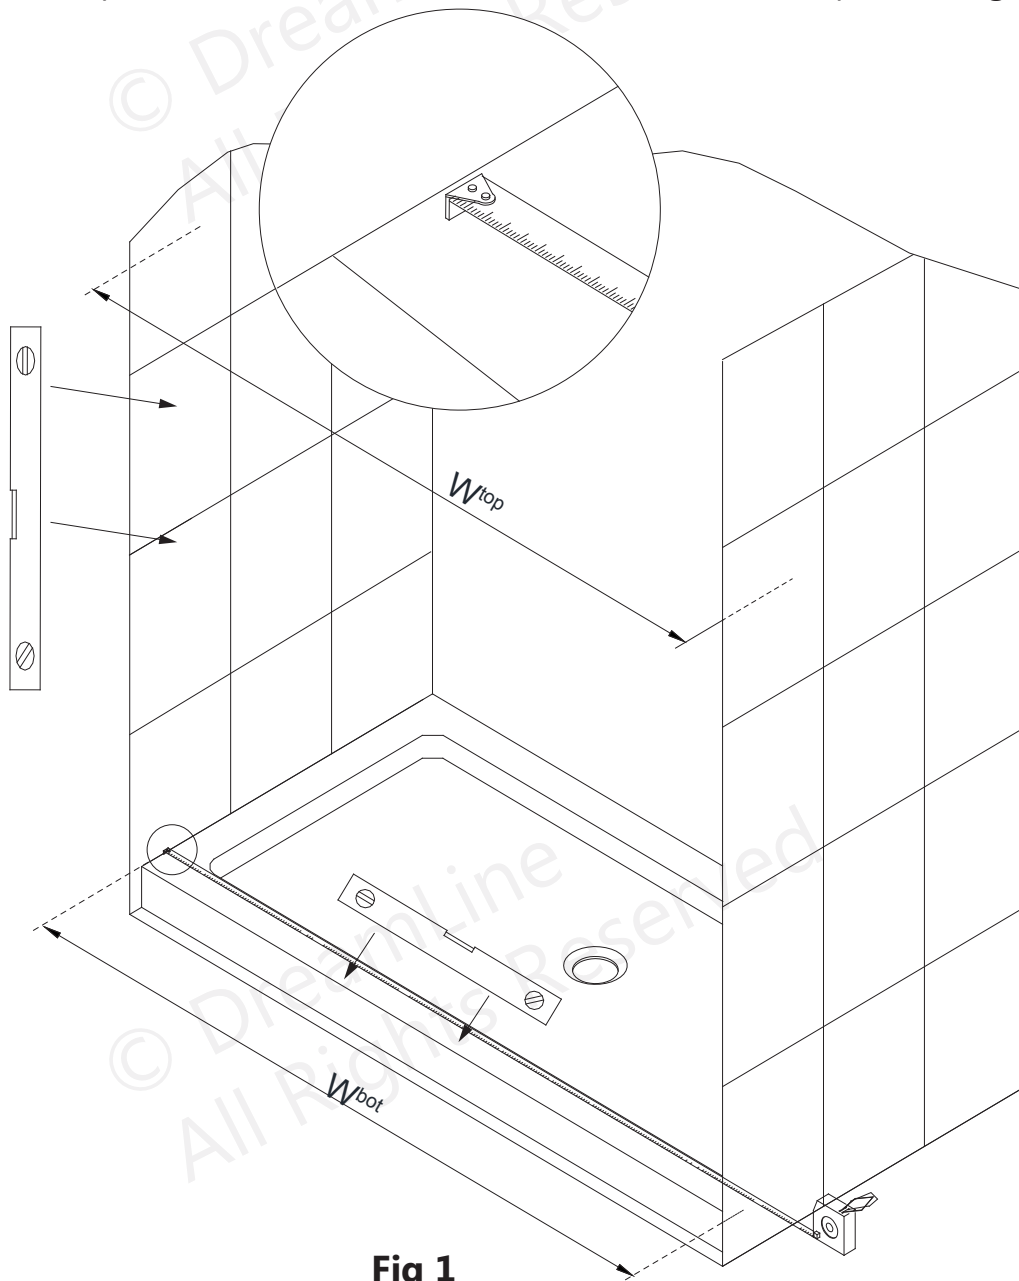

Fig 1
- 1.** Check the threshold for level and the walls for plumb. Measure the finished opening width at the bottom and at the top (at the model height: 58" for tub or 76" for shower). Use these dimensions as "**W^{top}**" and "**W^{bot}**" in step #2. Check the threshold for level and the walls for plumb. **(Fig 1)**